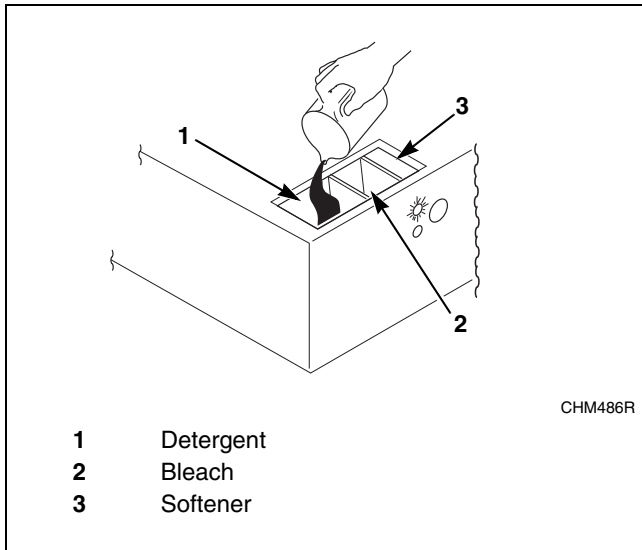

Figure 14
8. Add liquid and/or powder supplies to supply dispenser. Refer to *Figure 14*.